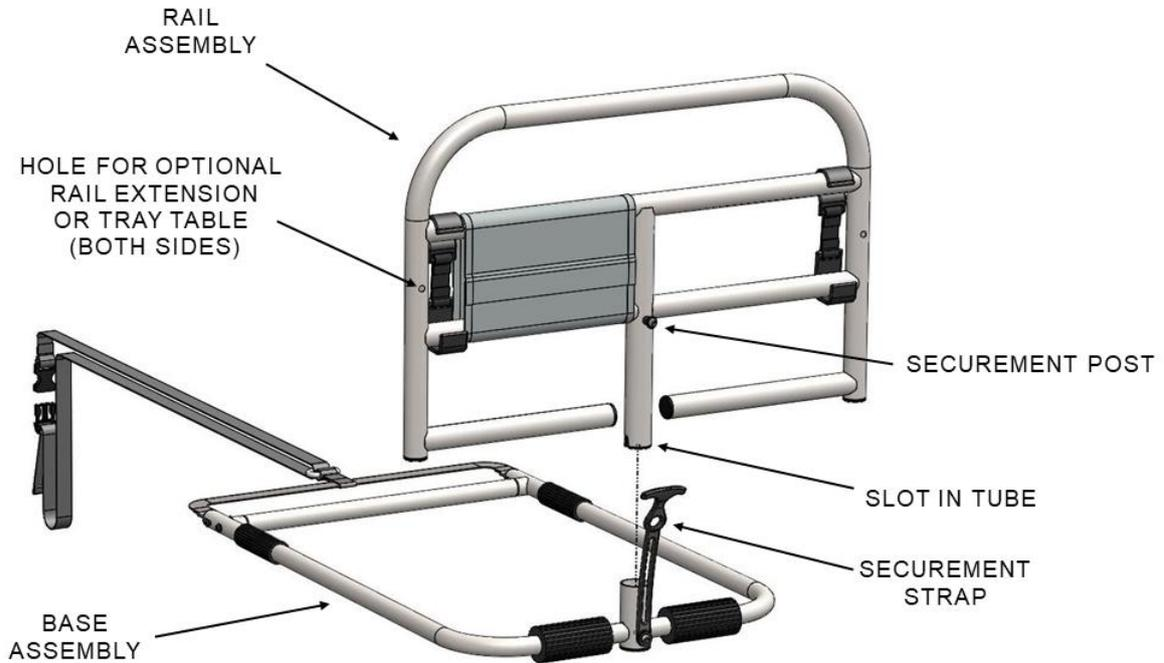

FIGURE 2
2. Insert the RAIL ASSEMBLY into the BASE ASSEMBLY as shown in Figure 2. **IMPORTANT:** The slot in the bottom of the RAIL ASSEMBLY must be fully inserted into the BASE ASSEMBLY to prevent the RAIL ASSEMBLY from rotating. Make sure the SECUREMENT POST is positioned on the same side as the SECUREMENT STRAP.